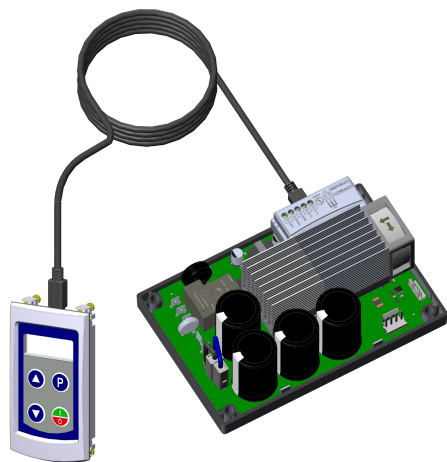

Figure 4.4: Connection of the mini USB cable between the HMI and the CRS485 accessory
2. Connect the mini USB cable between the HMI and the CRS485 accessory (See Figure 4.4 on page 18).